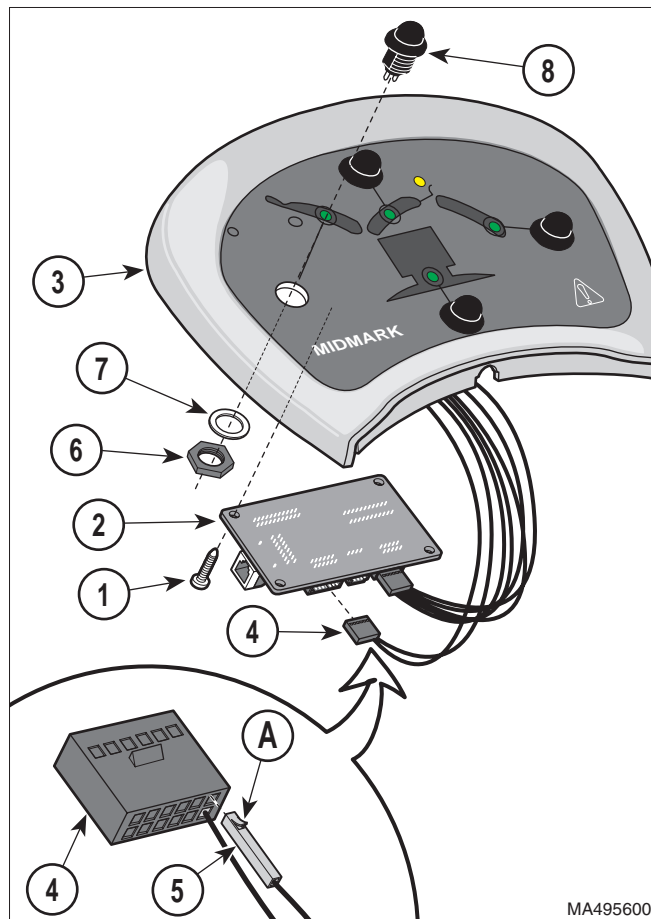

Figure 4-43. Typical Foot Control Function Button Switch Removal / Installation.
- (1) Remove foot control top. (Refer to para 4.28 *or* 4.29).
- (2) Remove four screws (1, Figure 4-43) and partially separate PC board (2) from foot control top (3).